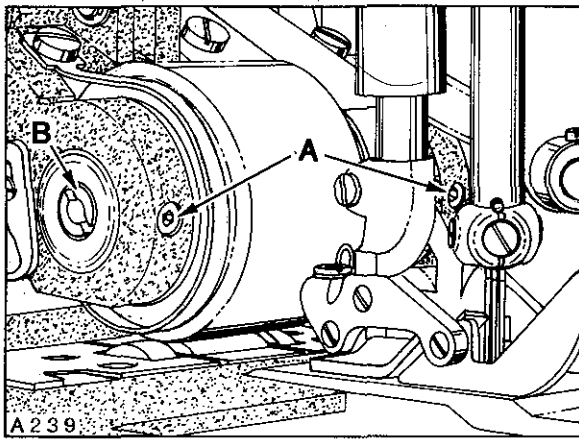

Fig.33
belt guard. It may be necessary to reposition sprockets (B and C) slightly (left and right). Pull down firmly on puller assembly, making sure puller roller is setting evenly on lower roller and tighten two screws (A) securely. The roller puller belt which is located under hinged belt guard (D) should have 1/8 inch (3.2mm) deflection when pressing firmly between drive shaft sprocket and drive sprocket. If adjustment is required loosen two allen screws (A, Fig. 33) and turn eccentric shaft (B) slightly to apply tension on belt. Turning shaft clockwise tightens belt, counterclockwise acts the reverse. **CAUTION:** Care must be taken not to disturb eccentric shaft (left or right). Tighten two screws (A) securely.